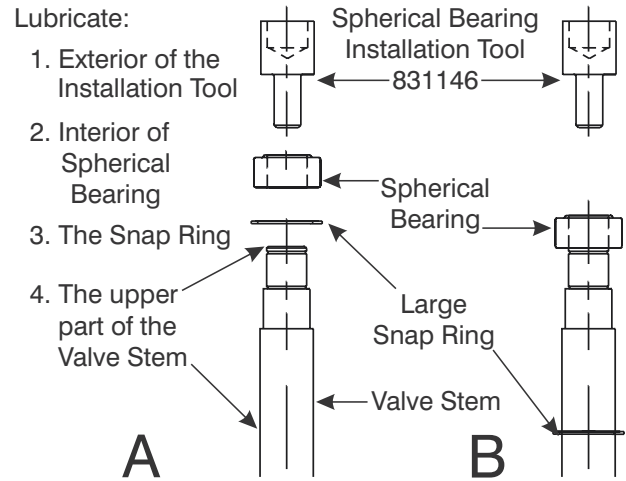

Figure 9-12. Lubricate Spherical Bearing Components.
1. Collect the Valve Stem (5) Spherical Bearing (2), Valve Snap Ring (4), Snap Ring (14), and Spherical Bearing Installation Tool 831146. Refer to Figure 9-12.
2. Lubricate the internal bore of the Spherical Bearing (2), and Valve Snap Ring (4). Lubricate the non-threaded end of the Valve Stem (5) and the exterior of the installation tool. Refer to Figure 9-12-A.
3. Slide the Valve Snap Ring (4) over the non-threaded end of the Valve Stem (5). Slide it as far as it will travel freely along the Stem. Tape it in place away from the non-threaded end of the Valve Stem so it will not be damaged during installation of the Spherical Bearing as shown in Figure 9-12-B.
6. Center the bore of the bearing over the Valve Stem. Figure 9-12-A.
7. Start the Spherical Bearing over the un-threaded (grooved) end of the Valve Stem as shown in Figure 9-12-B.